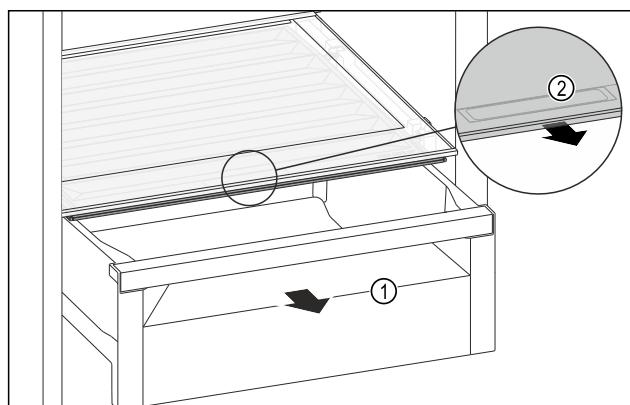

Fig. 135
- Pull out the drawer Fig. 135 (1).
- Grasp the recessed grip Fig. 135 (2) on the compartment lid and pull the compartment lid forwards at the same time.